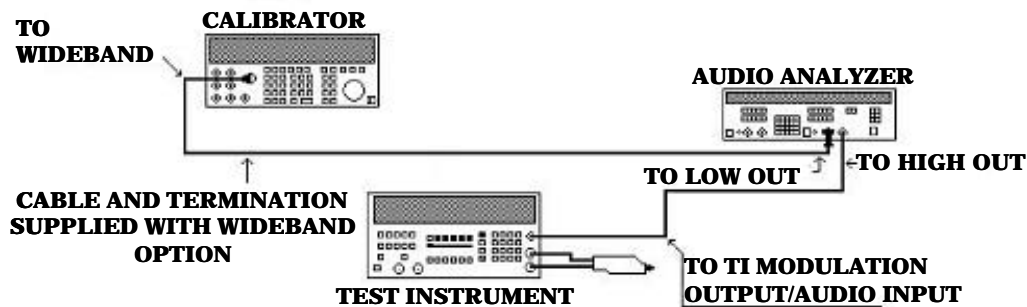

Figure 14. Audio measurement setup.
- (22) Connect equipment as shown in figure 14.